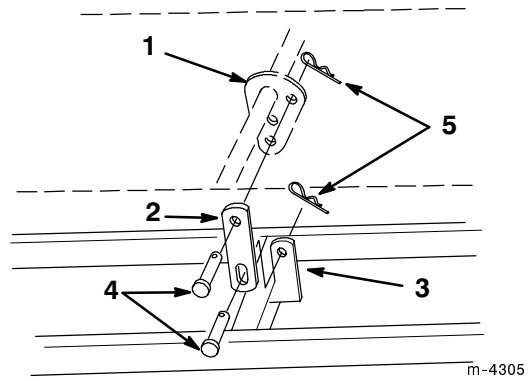

Figure 15
- Use the slotted link and two 3/8 x 3/4 in. (19 mm) clevis pins if you will be using the blade over uneven or rough terrain (Fig. 15).
2. Connect the upper front hole in the attachment lift plate to the top hole in the link you selected, securing it with one of the appropriate clevis pins and a medium hairpin cotter (Fig. 15 or 16).
7. Secure the link with the appropriate clevis pin (step 1) and a medium hairpin cotter (Fig. 15 or 16).
2. Remove the two clevis pins and hairpin cotters securing the lift link between the blade and tractor attachment lift (Fig. 15 & 16).